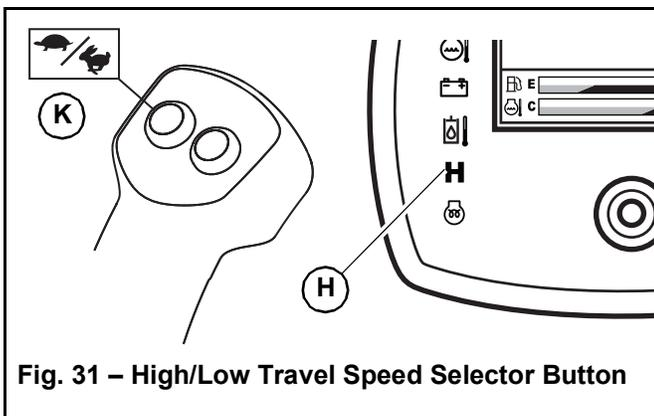

Fig. 31 – High/Low Travel Speed Selector Button
Pressing the speed range select button (K, Fig. 31) on the left control joystick toggles between the two speed ranges. Indicator (H) is lit when the high-speed travel range is selected; indicator (H) goes out when low-speed range is selected.